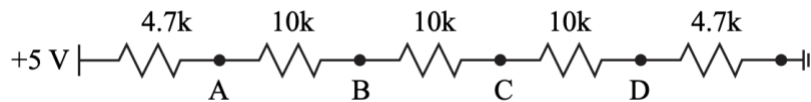

Figure 3.1: Resistor ladder example.
A resistor ladder is shown in Figure 3.1.
1. Using LTspice, layout the circuit in Figure 3.1 and run a DC operating point simulation (.op) to generate the node voltages at nodes A, B, C, and D. Table the node voltages.